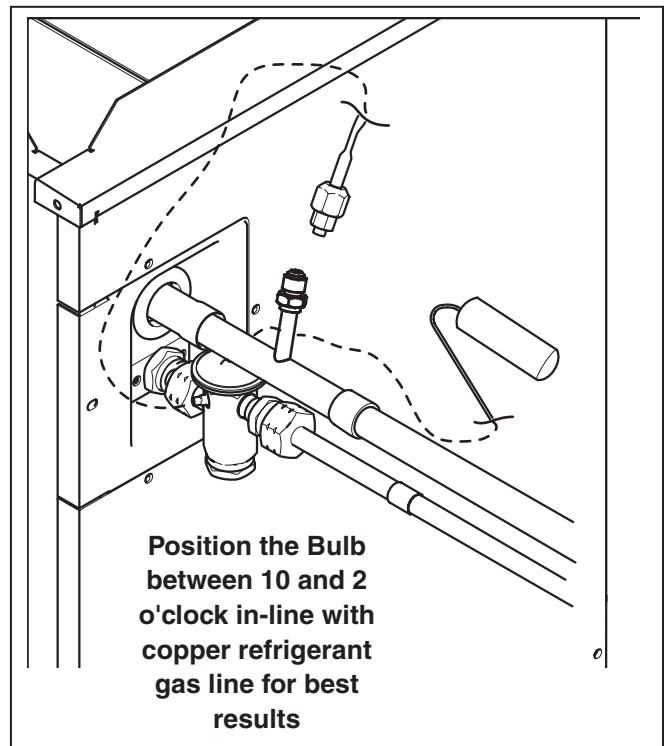

Figure 6
10. Use the supplied bulb strap to attach the sensing bulb onto a straight section of the refrigerant gas line. See Figure 6 for instructions on attaching the bulb strap. In some cases, the bulb strap is required when the new bulb size is different from the existing sensing bulb.